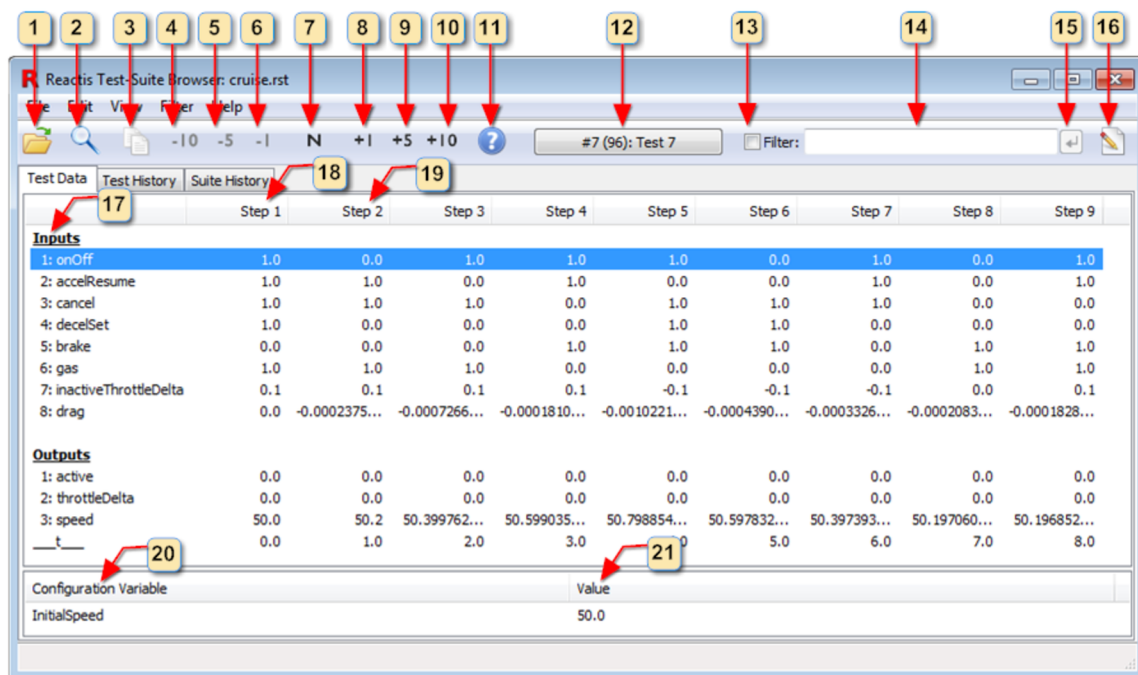

Figure 5.1: The Reactis Tester test-suite browser.
The Test-Suite Browser allows you to view test suites. Figure 5.1 contains an annotated screen shot of the Test-Suite Browser, which displays the test selected in the test selector button (window item 12). The body of the window consists of three tabs:
The following items are labeled in Figure 5.1: